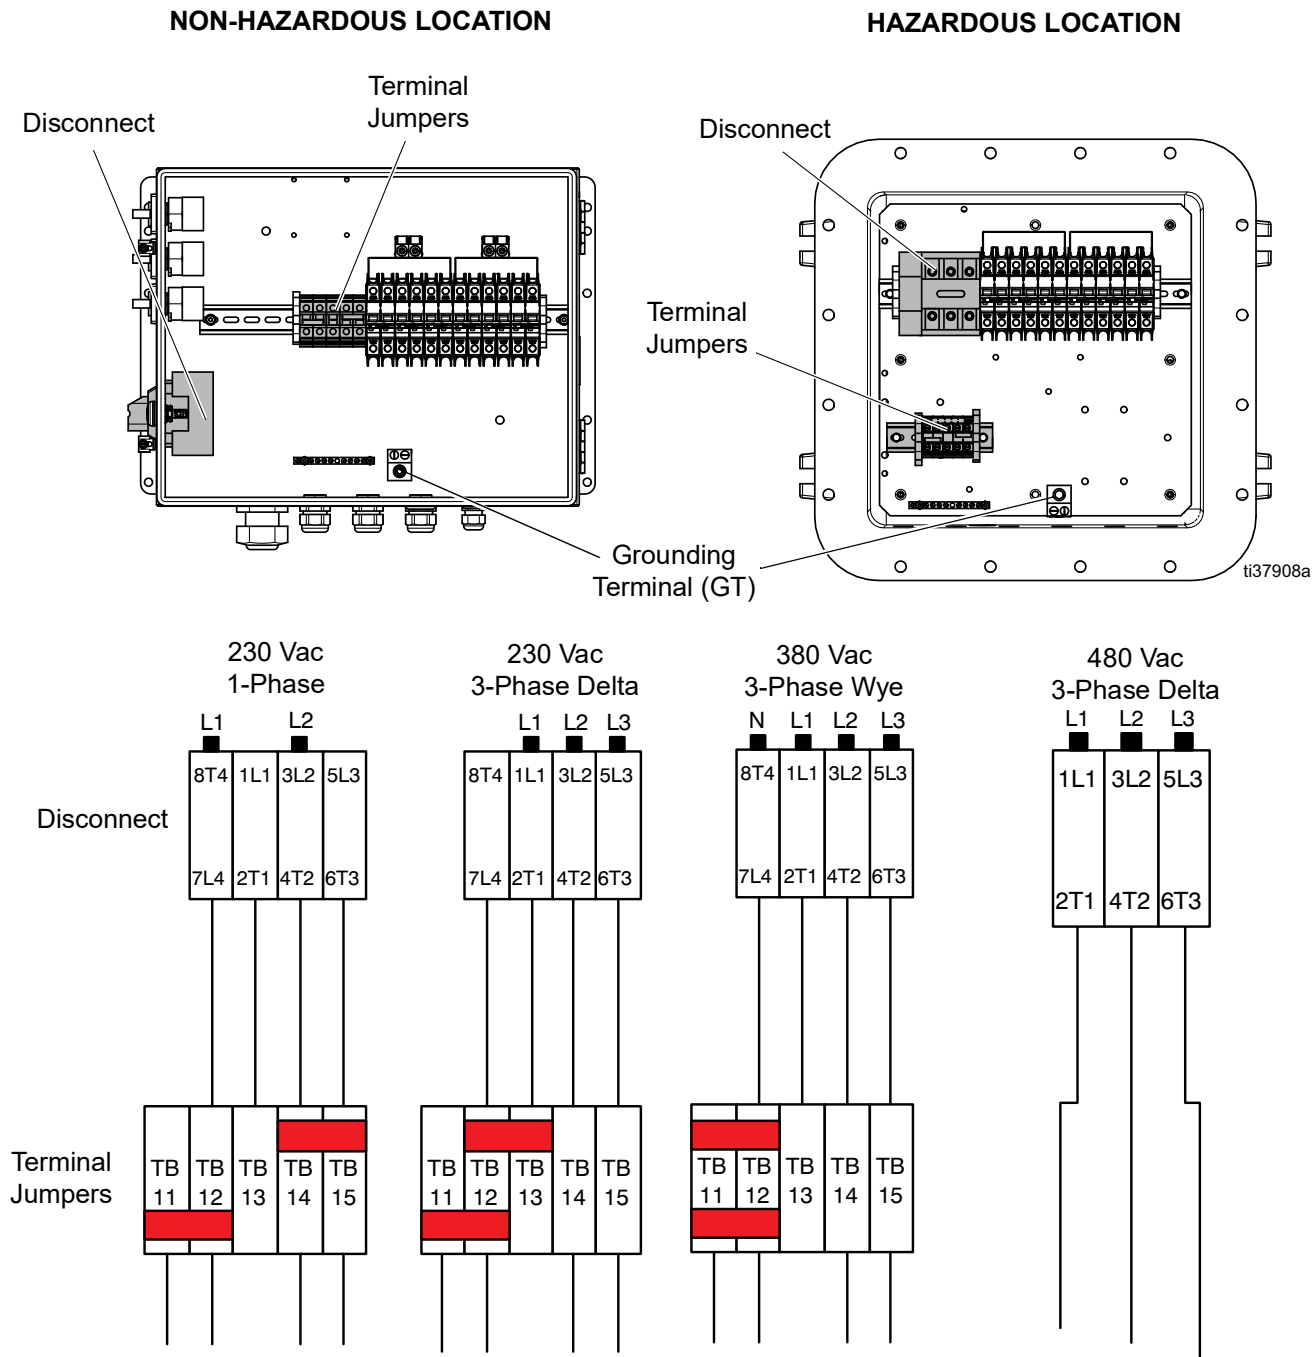

FIG. 7: XM Wiring Diagram
4. Connect the ground wire to ground terminal (GT). See FIG. 7, page 29.
5. Connect the power cord to the disconnect as shown in the FIG. 7, page 29. Tighten conductors to 55 in-lb (6.2 N•m). Gently pull on all connections to verify that they are properly secured.
6. **Non-Hazardous Locations only:** Tighten strain relief (BH).
7. Install the supplied terminal jumpers in the positions shown in the FIG. 7, page 29.
8. Verify that all items are connected properly as shown in the FIG. 7, page 29, then close the junction box door.